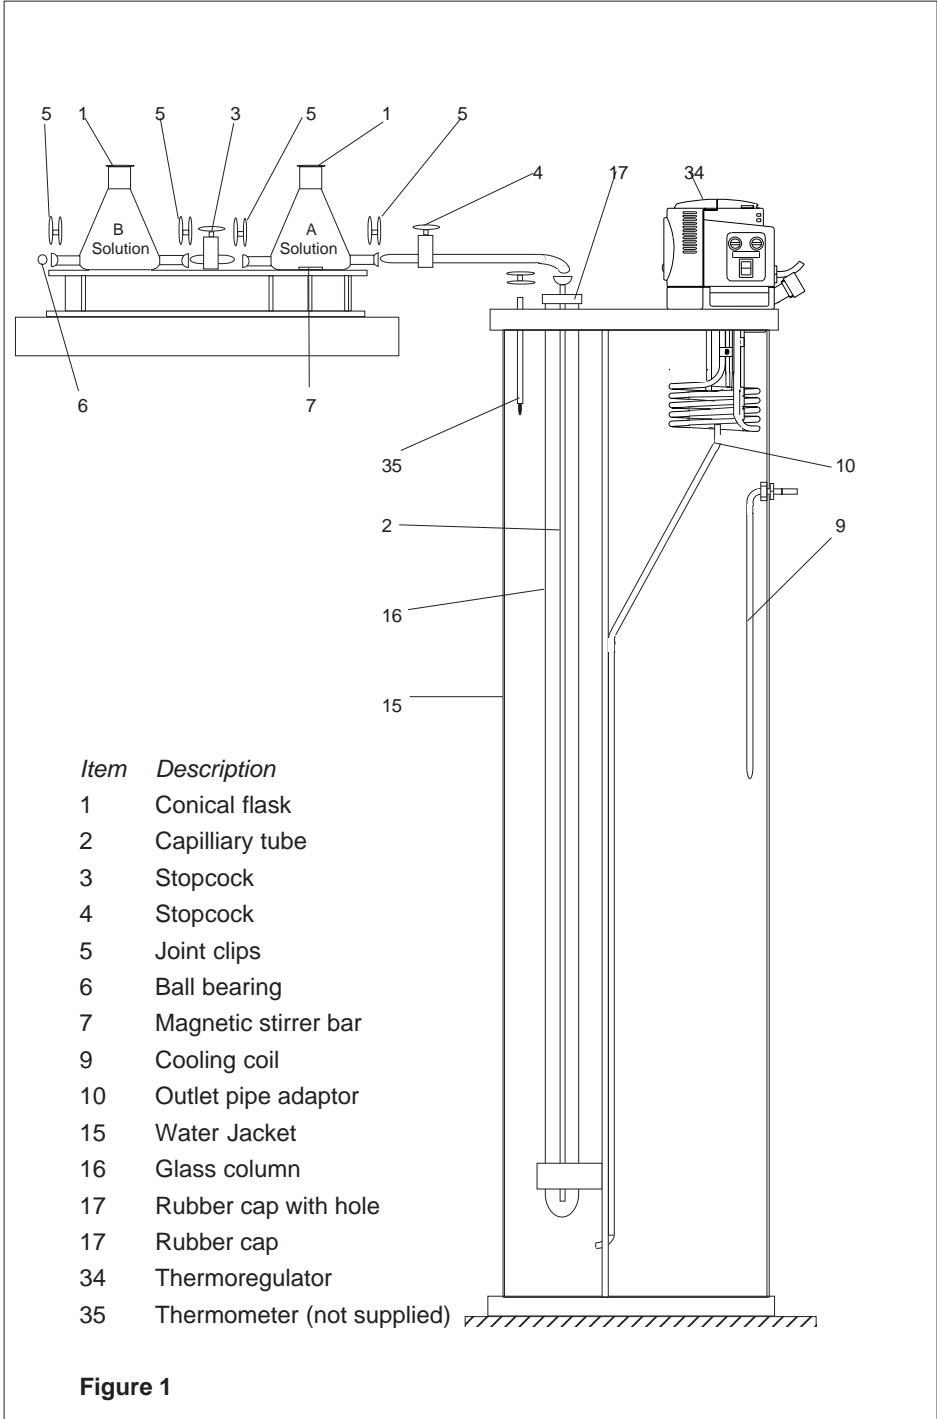

Figure 1
- Insert the capillary filling tube (item 2) down into the column tube until its lower end rests on the bottom.
- Link up the rest of the apparatus as shown in fig 1 using a small amount of silicon grease on all the joints; the stirrer and flasks can stand on a bench alongside the column.
When ordering spare parts check fig 1, page 18, to obtain the correct item reference and always quote the instrument serial number.